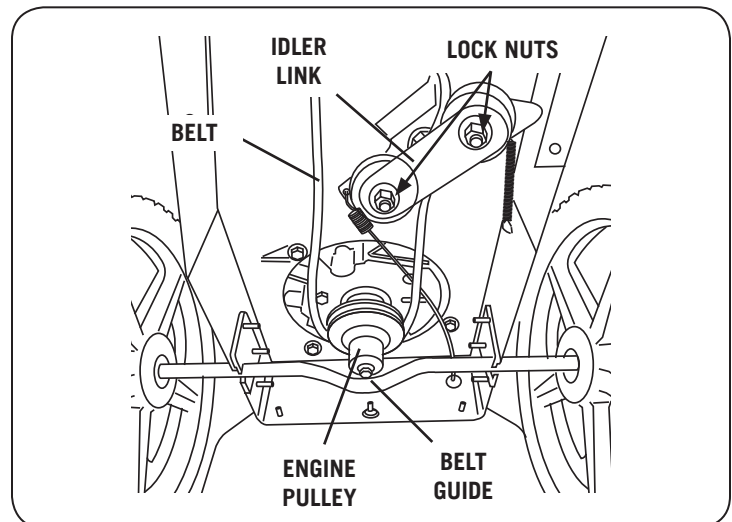

Figure 17
4. Loosen the belt guide locknut using a 10mm wrench (see Figure 17) and rotate the guide out of the way.
9. Install the small spacer and v-groove idler pulley. Position the idler link over the idlers and secure with the two locknuts using a 13mm wrench (Figure 17).